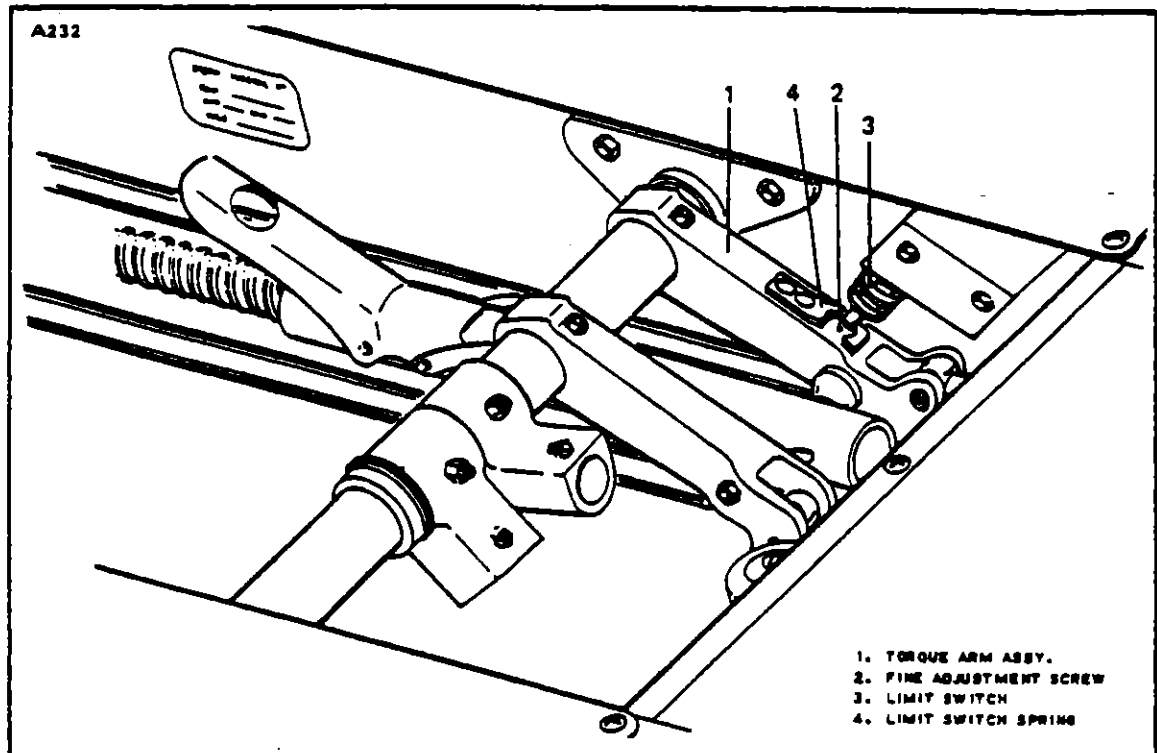

FIGURE 6-16. LANDING GEAR UP LIMIT SWITCH
- 1. Retract the gear and check to insure that both main gear assemblies enter the wheel well approximately the same distance and that the nose gear enters far enough (Refer to Figure 6-16.)
- 2. If the gear does not retract far enough, move the switch (3) up in its bracket and run the check again. On the late model airplanes, a set screw (2) is located in the left torque arm (1) for fine adjustment purposes.